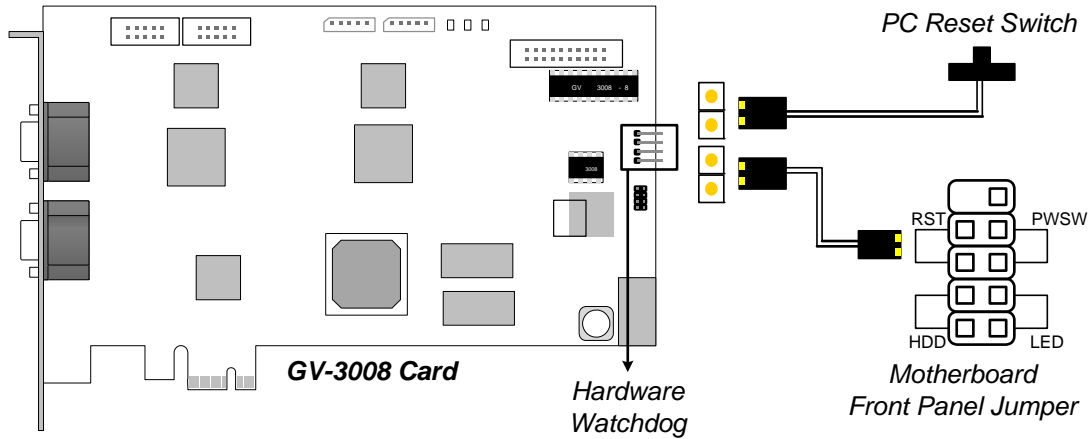

Figure 1-13
- Connect the supplied Hardware Watchdog Jump Wire (Figure 1-13).
- **Hardware Watchdog Connection:** Connect the supplied Hardware Watchdog Jump Wire to the Master Card only (Figure 1-13).